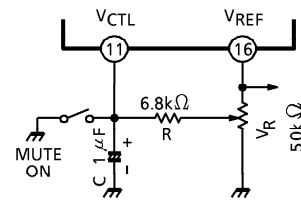

Fig.1 Function of mute
- (1) A volume which has the characteristic "curve A" is available for the DC volume control.
- (2) The capacitor C is used for absorbing volume sliding noise.
- (3) The DC volume control circuit is applicable to "Function of Mute", connecting as Fig.1.